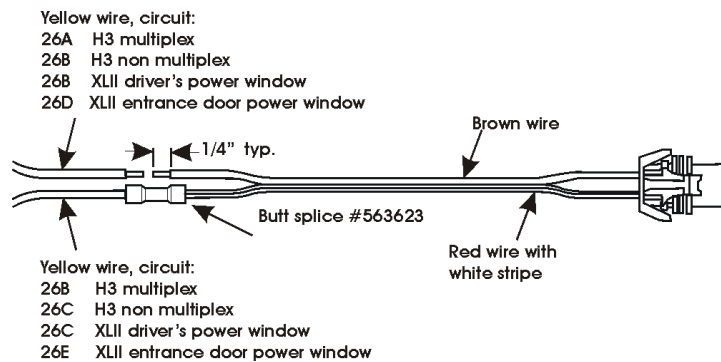

FIGURE 7
8. Extend the vehicle harness using connecting harness extension #563664 and butt splices #563623 included in kit (see figure 7). Heat the shrinkable ends of the butt splices.